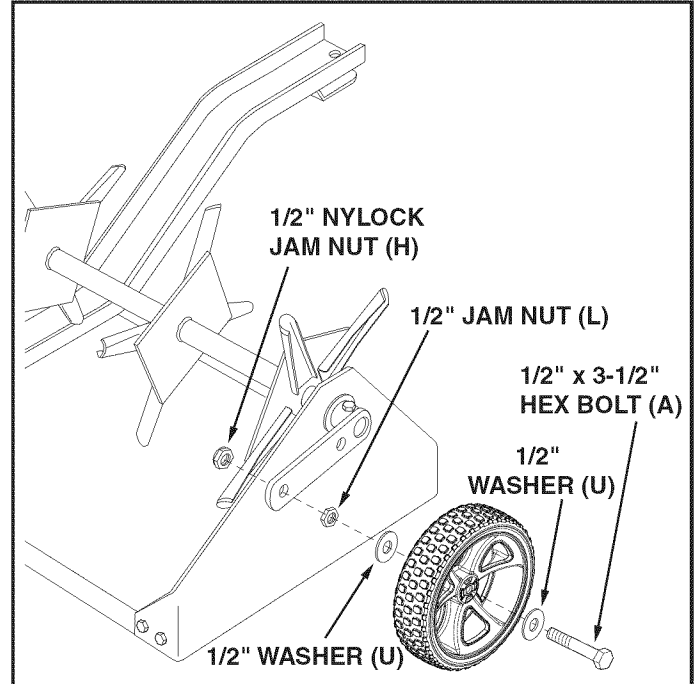

FIGURE 9
- Assemble a wheel to a wheel bracket as shown in figure 9. Use a 1/2" x 3-1/2" hex bolt (A), two 1/2" washers (U), one 1/2" hex jam nut (L), and one 1/2" nylock jam nut (H). Adjust the nuts so that the wheel is held securely with minimum end play but will spin freely. Repeat on other side. See figure 9.